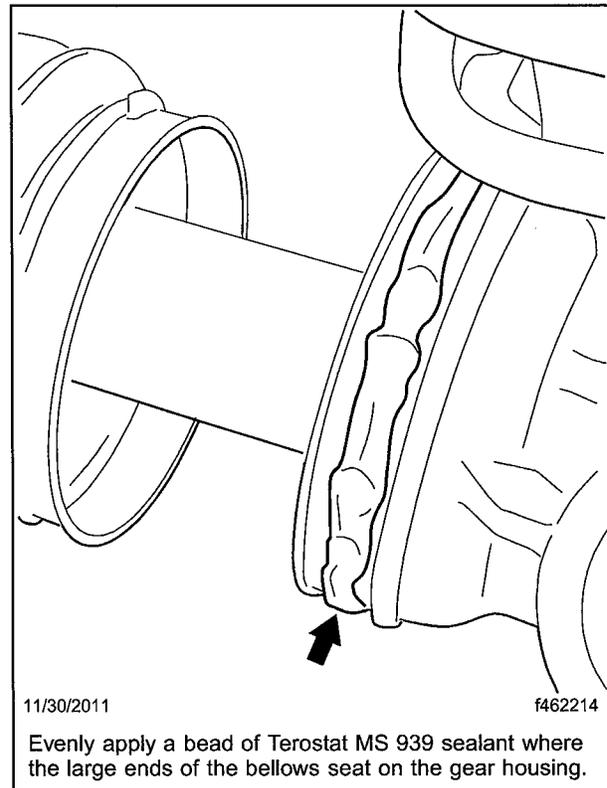

Fig. 10, Terostat MS 939 Sealant Application
9. Evenly apply Terostat MS 939 sealant to the outer diameter of the rack housing where the large ends of the bellows seat on the gear housing. See **Fig. 10**